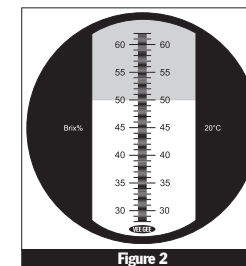
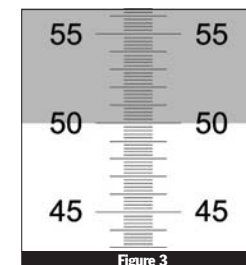

Figure 2
Figure 3
- 5 When the refractometer scale is viewed through the eyepiece, the upper field of view will be seen as blue and the lower field will be seen as white (Figure 2). Confirm that the boundary line crosses the scale at "50" (or the value of the liquid standard being used) (Figure 3).